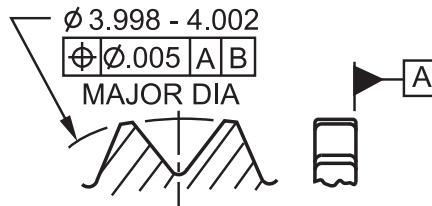

Figure 7
4.6 Gears and Splines – The GD&T tolerance stated in a feature control frame for a gear or a spline must state under the feature control frame “MAJOR DIA”, “MINOR DIA”, or “PITCH DIA”; this is an axis control. In the Figure 7 example, the major, minor, or pitch diameter axis must fall within the .005 cylindrical tolerance zone for position and, typically, perpendicularity to datum “A”. Note that 95% of the time, the primary datum is controlling perpendicularity and in this case within the .005 tolerance zone. Datum “B” could be a hole in the center of the gear. Also note that if the perpendicularity is .004, then the position must be within .001; where the total equals .005.